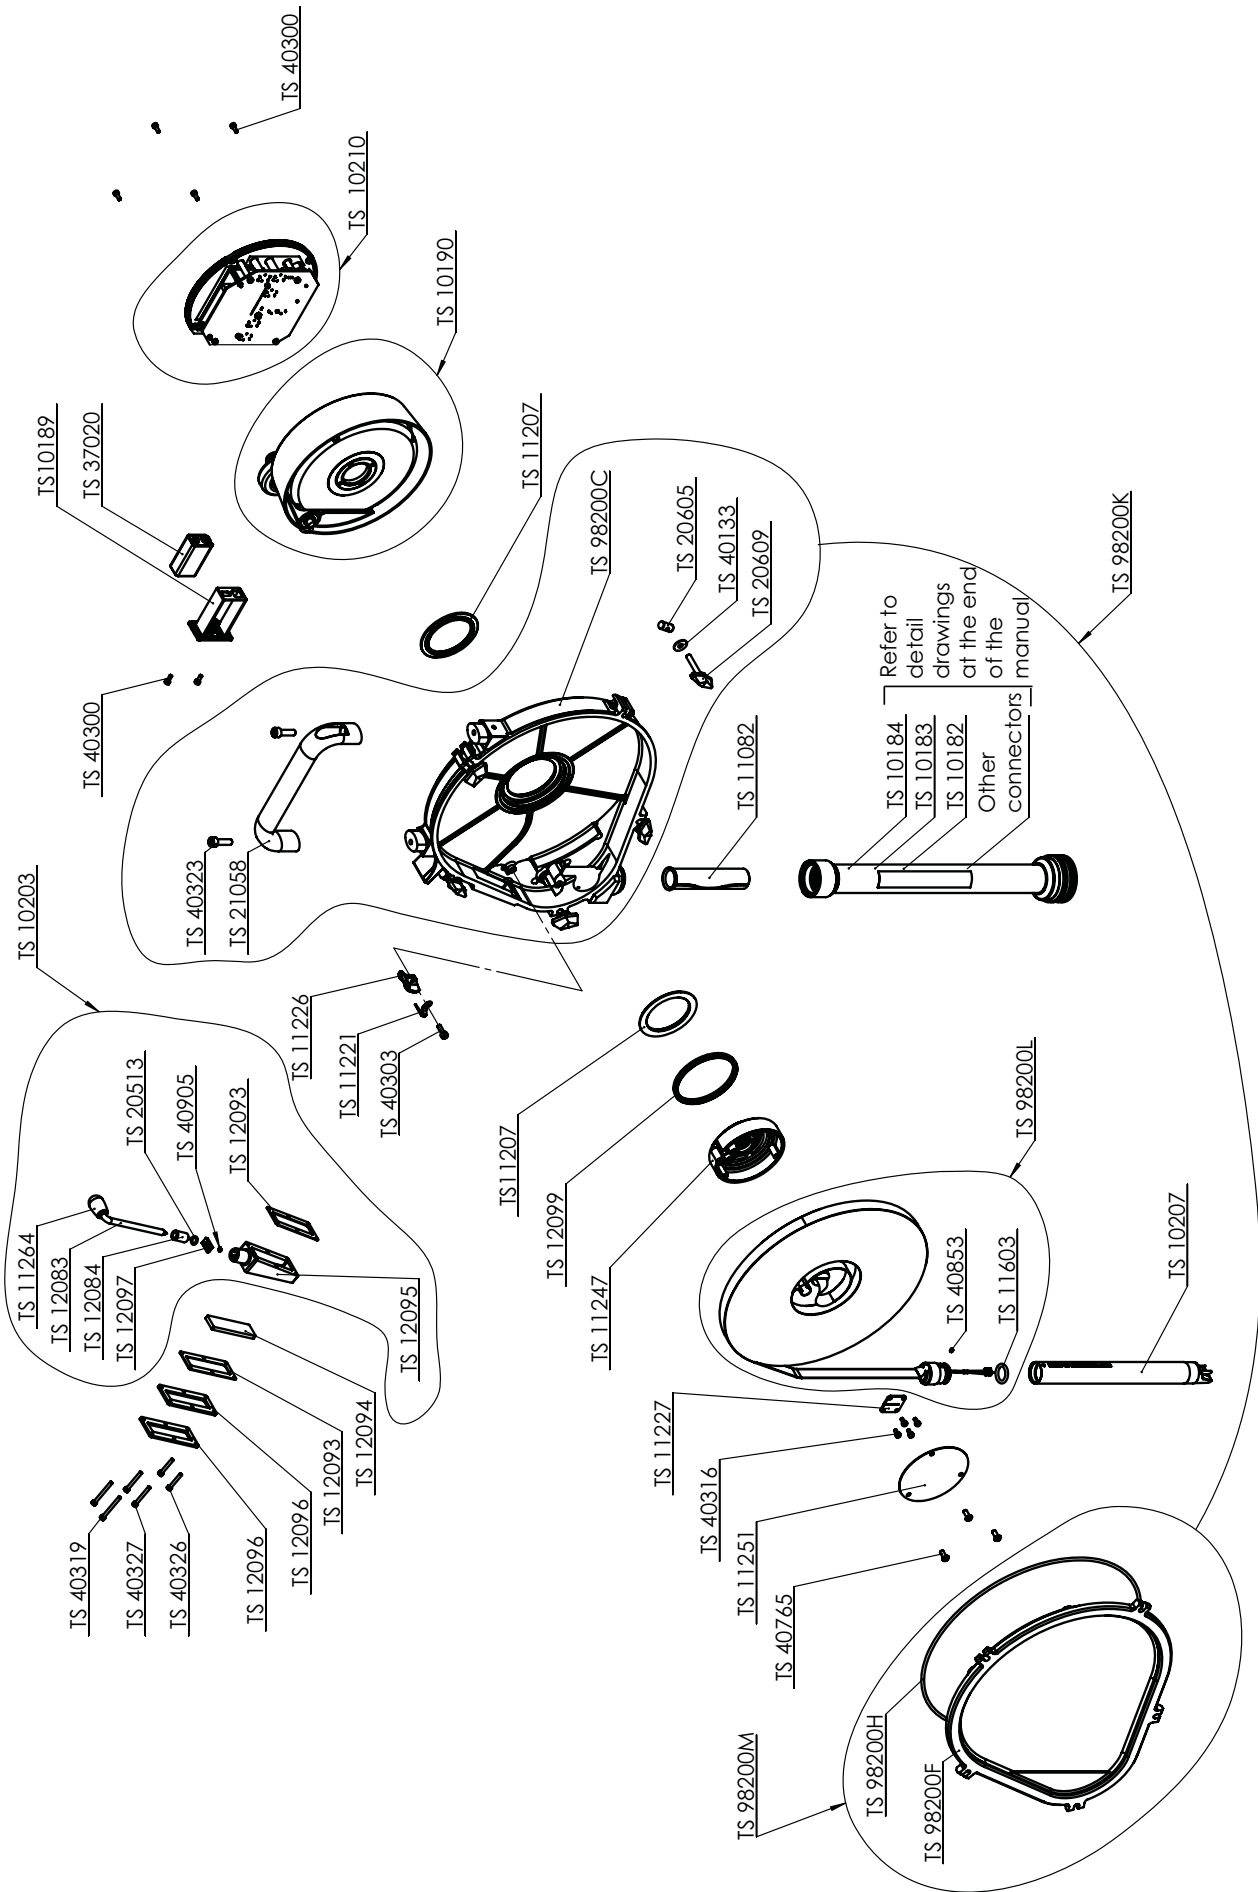

Figure 13-1: general assembly, list of the main spare parts
- Figure 13-1 : general assembly, list of the main spare parts